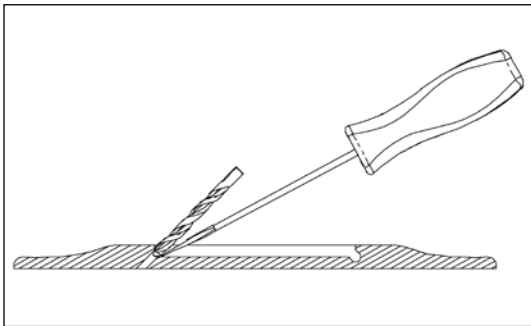

FIGURE 1
It is important to avoid disrupting the floor of the saddle slot when doing this. To protect the slot, lay a narrow slotted screwdriver under the tip of the drill bit before drilling the horizontal hole. (refer to Fig. 1)
4. Drill the pickup hole at a 45 degree angle at the very end of the saddle slot (either end is OK). If you have a 1/8" saddle, a 1/8" drill bit should be used assuming it fits into the slot smoothly. If it feels tight, use a 7/64" bit. Place the blade of the narrow screwdriver under the tip of the drill bit when drilling to avoid removing material from the bottom of the slot. (Refer to Fig. 1).